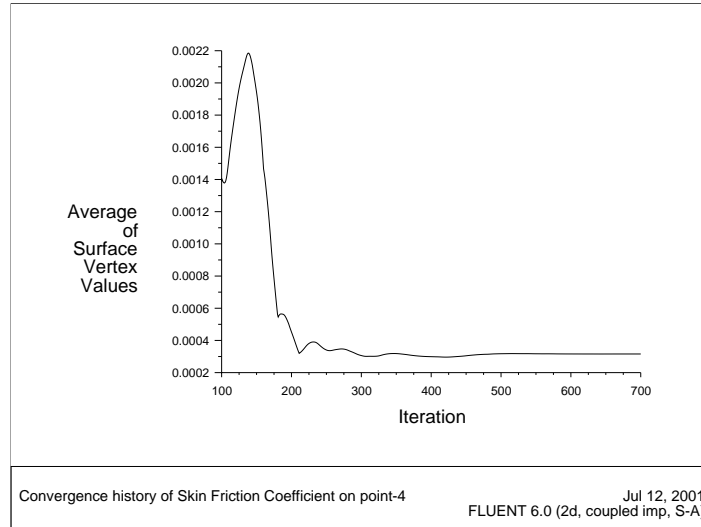

Figure 3.8: Skin Friction Coefficient History
*After 600 additional iterations, the force monitors and the skin friction coefficient monitor (Figures 3.8–3.11), indicate that the solution has converged.*